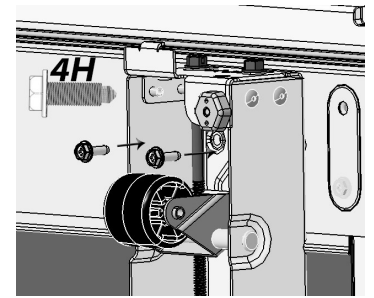
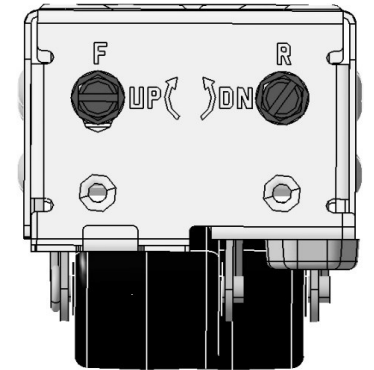

Fig. 5
Fig. 6
- c. Using the 4H bolts from step 1, fasten the front of the Leveler Assembly to the refrigerator/freezer using a  $\frac{5}{16}$ " nut driver (Fig. 5). For steps 3b and 3c, if you need more space for the nut driver clearance, rotate the bolt labeled "F" clockwise (Fig. 6) using a flathead screwdriver or a  $\frac{3}{8}$ " socket wrench.